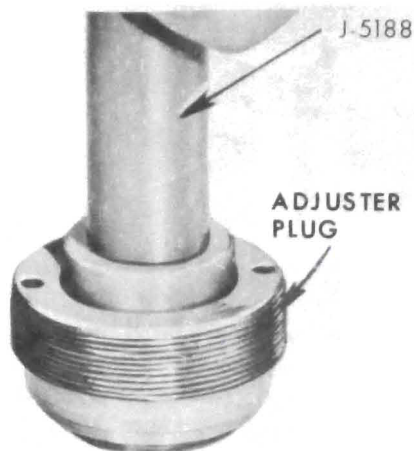

Figure 90-52 Installing Stub Shaft Seal
2. Lubricate new stub shaft seal with power steering oil and install seal with spring in seal toward adjuster plug using tool J-5188. See Figure 90-52. Install seal only far enough in plug to provide clearance for dust seal and retaining ring. Place new dust seal with lip up in plug, then install retaining ring with No. 3 Truarc pliers, J-4245.